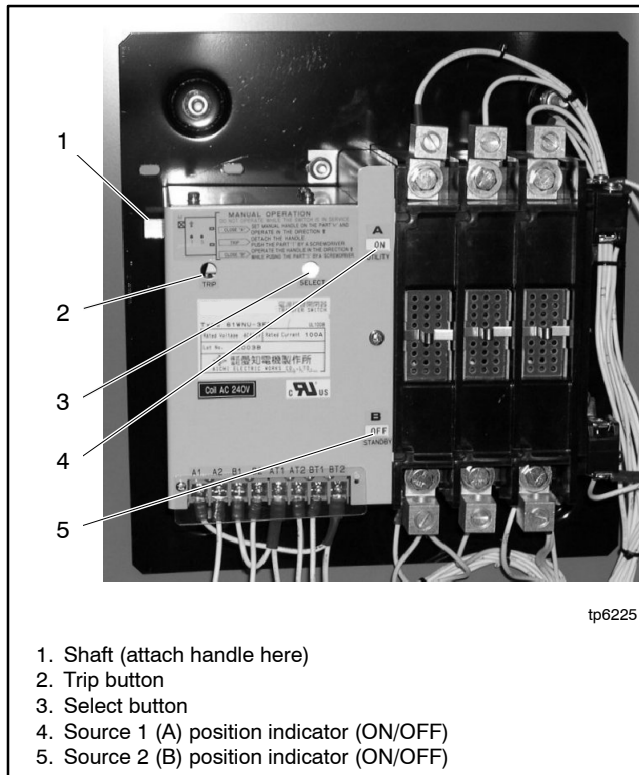

Figure 2-6 Manual Operation, Programmed-Transition Switches (handle not shown)
2. Check the contactor position, indicated by the A and B position indicators. See Figure 2-6. One position indicator will display ON to indicate the source position. If both indicators display OFF, the transfer switch is in the OFF position.
See Figure 2-6. Check that both position indicators display OFF.
4. Slide the manual operating handle (provided with the switch) over the shaft on the left side of the switch. See Figure 2-6.